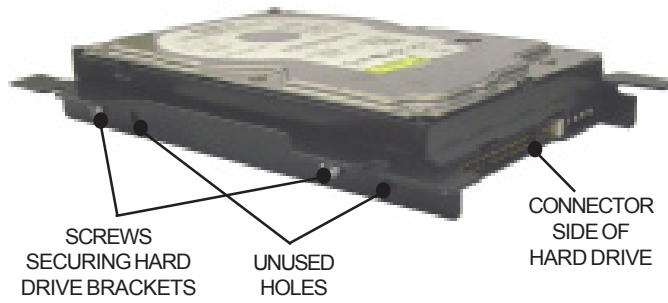

FIGURE 3-1 - BRACKETS SECURED TO HARD DRIVE
2. Locate the plastic bag taped to the computer containing 2 metal hard drive brackets, 4 screws and 2 thumbscrews. Using the 4 screws, secure the brackets to the hard drive as shown in Figure 3-1. Use the holes in the bracket that are furthest from the connector side of the hard drive.